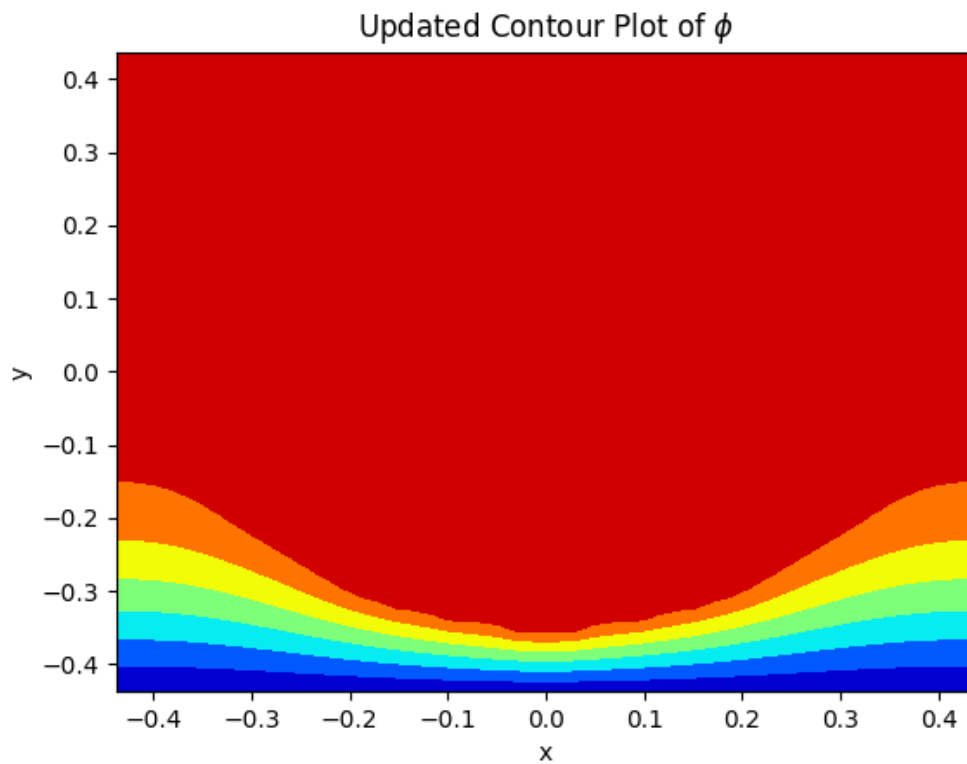

Figure 6: Contour plot of potential
- From Figure 6 it is very clear that there is very little potential on the top and sides of the plate as there is no electrode attached and hence current has no path to flow. As the current cannot flow, the potential wouldn't change and almost remains constant.